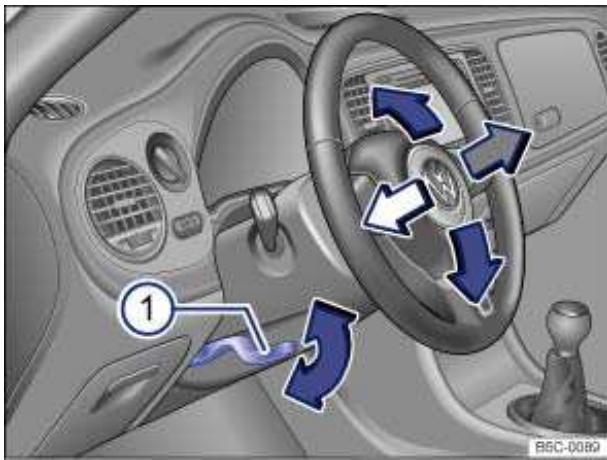

Fig. 36 Manual adjustment for the steering wheel position.
- Push down on the lever \Rightarrow fig. 36 (1).